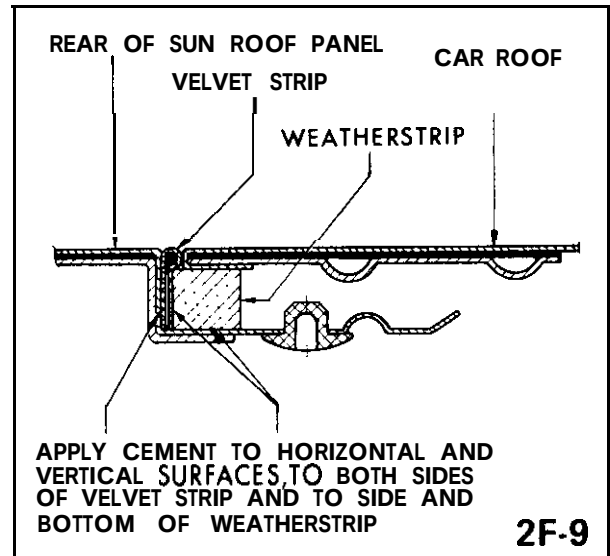

Figure 2F-9 Installing Velvet Strip and Weatherstrip on Rear of Sun Roof Panel
1. Using **nitrile** vinyl trim adhesive (3M Vinyl Trim Adhesive, Permalastic Vinyl Trim Adhesive or equivalent) apply sparingly to vertical and horizontal contact areas at rear of sun roof panel (see Figure 2F-9) and also to side of velvet strip which will touch sun roof panel.